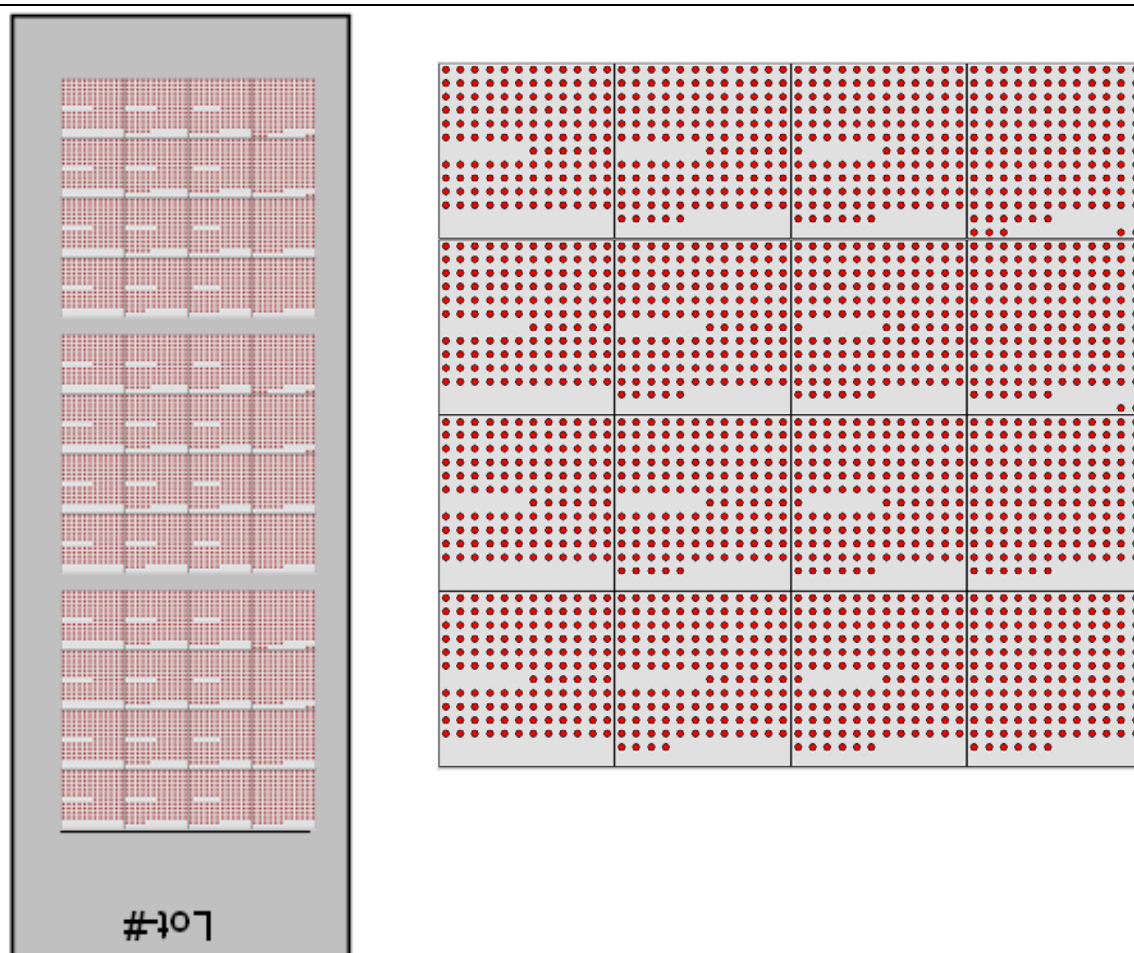
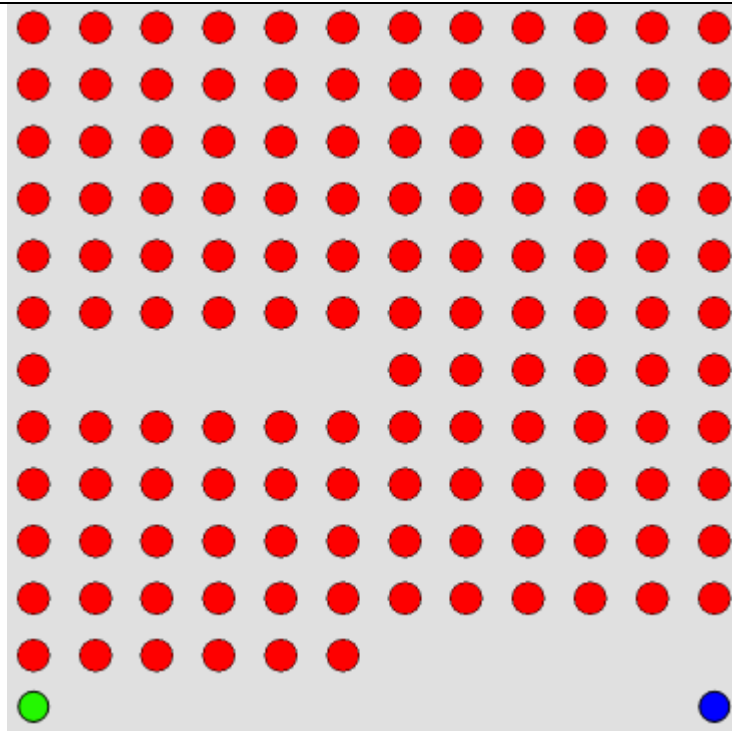

Figure 3: Exemplary view for a microarray slide with 3 subarrays (left) and a subarray consisting of 16 individual blocks (right).
Figure 4: Exemplary block layout
For RepliTope™ antigen collection microarrays, each subarray (SA) is printed in individual blocks (see Figure 3, details in Figure 4). The number of blocks and the final layout will vary according to the final number of peptides derived from the antigens.